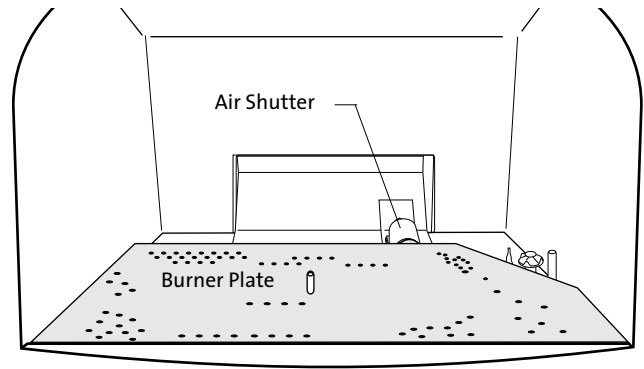

Figure 13. Remove the Air Shutter and Burner as a unit.
7. Lift out the Burner Plate: NOTE: There are no screws securing the Burner to the floor of the firebox. Pull the Air Shutter forward and lift the burner together with shutter up and out of the stove as a unit. See fig. 13.